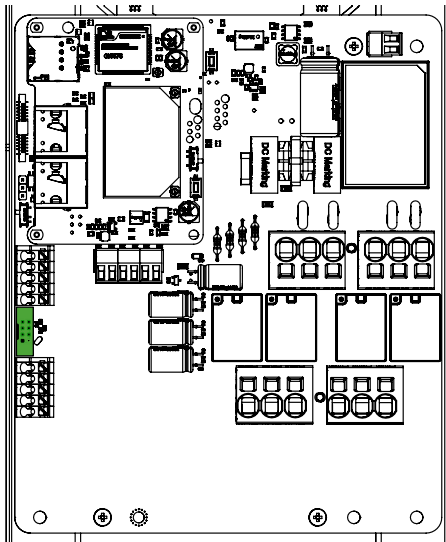

Fig. 23: PilotBox RCM B socket.
1. Connect the device to the dedicated socket on the PilotBox board. [Fig. 23]